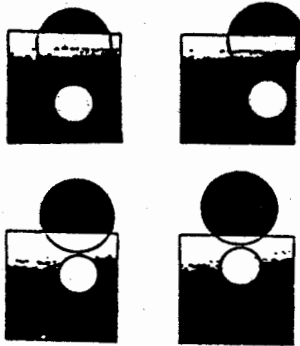

Figure 1
The Stop Block (part # 3) is what holds the material in position while it is bent around either the Center Pin or Die. The Stop Block must be positioned in only four (4) correct ways as shown in Figure 1.